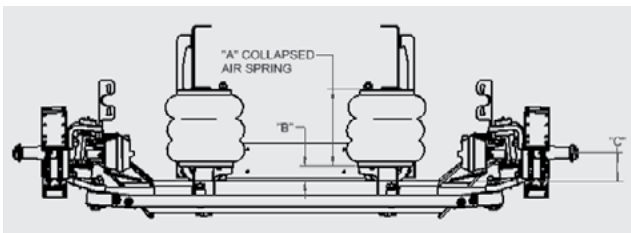

Figure 1. Driveline Drop Clearance
Drive line drop clearance measurement, Figure 1, Dimensions "A" + "B" with axle in full up position Dimension "C" is the Spindle CL to Axle
**⚠ WARNING: ADEQUATE SUSPENSION SUPPORT MUST BE PROVIDED WITHIN THE VEHICLE FRAME! A CROSSMEMBER MUST BE LOCATED 12" FORE OR AFT OF THE SIDE RAIL PIVOT BOLT CENTERLINE. FAILURE TO PROVIDE ADEQUATE SUSPENSION SUPPORT COULD RESULT IN SUSPENSION DAMAGE AND/OR DAMAGE TO THE VEHICLE FRAME. (SEE FIGURE 1)**